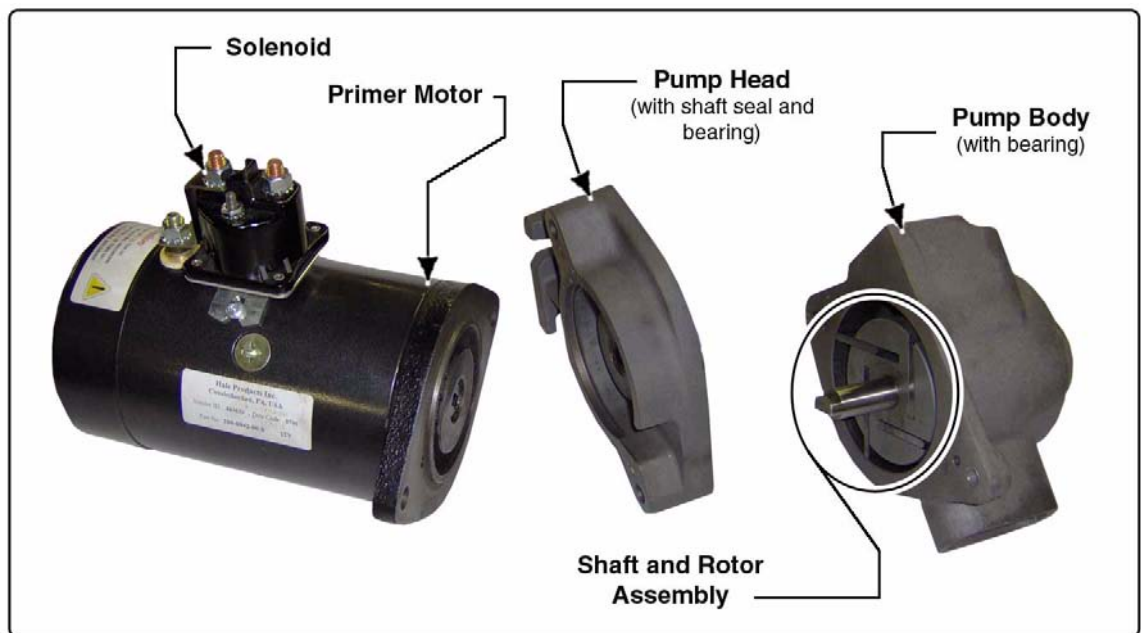

Figure 5-2: Primer Pump Parts Overview
Disassemble the priming pump and inspect and clean the housing and vanes. (See Figure 5-2: “Primer Pump Parts Overview.”)
7. Disassemble the pump head assembly from the primer motor - 3/8”-16 screws, ground wire and hardware. (See Figure 5-2: “Primer Pump Parts Overview” on page 37.)
13. Reassemble the pump making sure the vanes are inserted properly. (See Figure 5-2: “Primer Pump Parts Overview” on page 37.)